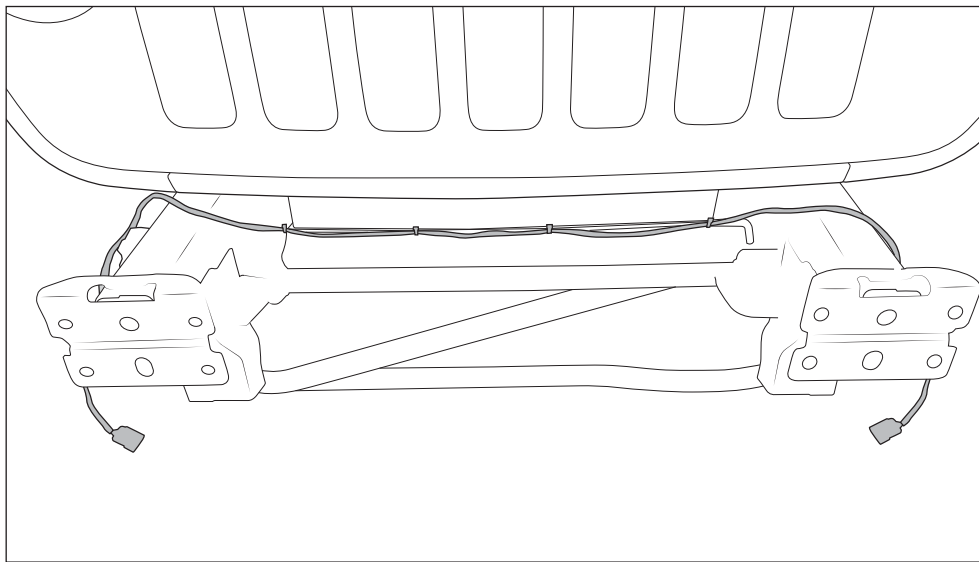

Figure 1
- F. Reinstall the factory bumper wiring harness across vehicle and wire tie to power steering line for retention of center portion. Leave ends loose for now and tuck them toward rear to prevent pinching during bumper installation (fig. 1).